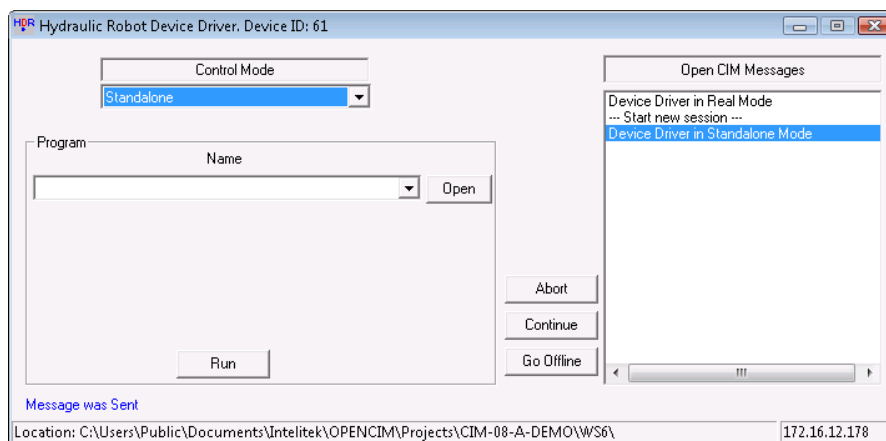

Figure 154: Hydraulic Robot Device Driver (Standalone)
4. From the Control Mode drop down list, select **Standalone**. The window is expanded as shown in Figure 154: Hydraulic Robot Device Driver (Standalone).